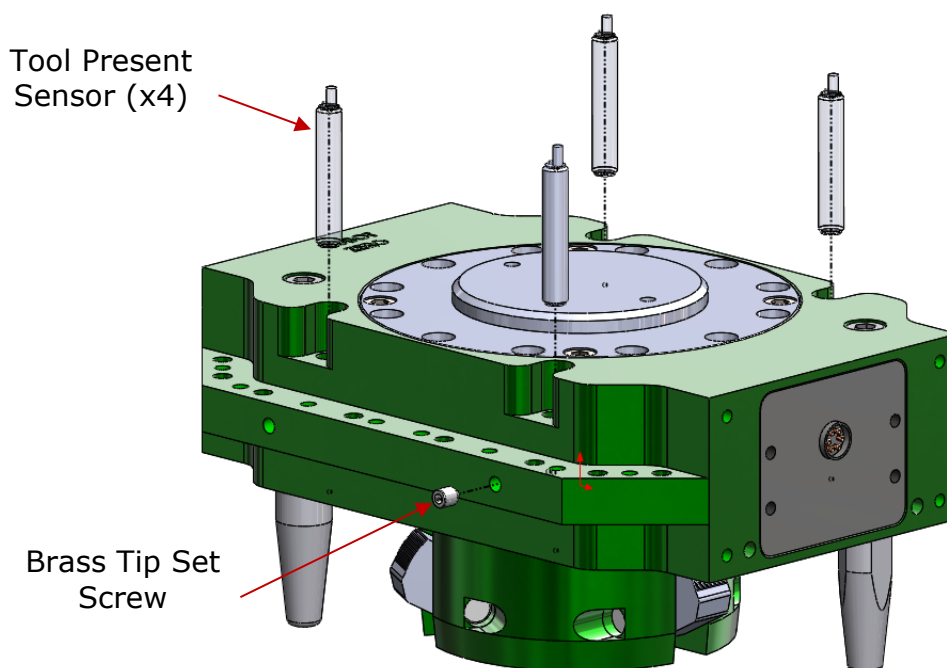

Figure 5.5-1. Tool Present Option
The E125 Tool Changer contains built-in features for Tool Present detection via proximity sensors (Figure 5.5-1). This option allows for up to four (4) Tool Present sensors to be installed and the signals to be monitored either individually or in series providing a single output signal to ensure parallelism between the Robot Side and Tool Side during docking.